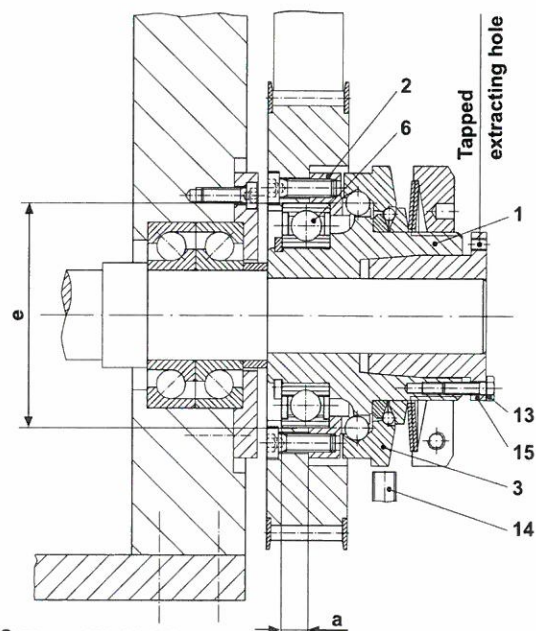

Fig. 3 (Type 490.614.0)
Installation of the Output Elements (Fig. 3)
In order to prevent axial wandering of the output element (pressure flange (2)) in the direction of the thrust washer (3) during disengagement, please make sure that the output element bearing is a location bearing (Fig. 3).
Please observe the connection dimensions „a“ and „e“ for the output elements (Fig. 3 and Table 12).